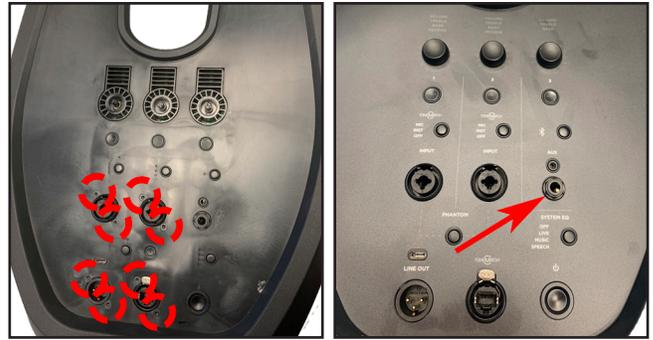

Figure 11. 4 Jacks and Jack Socket Nut Removal
2.7 On the Top cover, remove the 8 screws securing the 4 Jacks. Figure 11 (left).
2.8 Use a nut driver or socket to turn ¼ turn to remove the 1/4' Jack socket nut out as the red arrow indicated in Figure 11 (right).